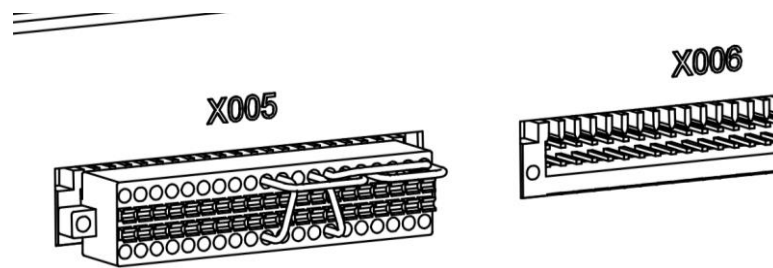

Figure 5-10 System short circuit module
Step4. Confirm that the system short-circuit module of the control cabinet is connected normally (X005 in Figure 5-10 is the normal connection state).